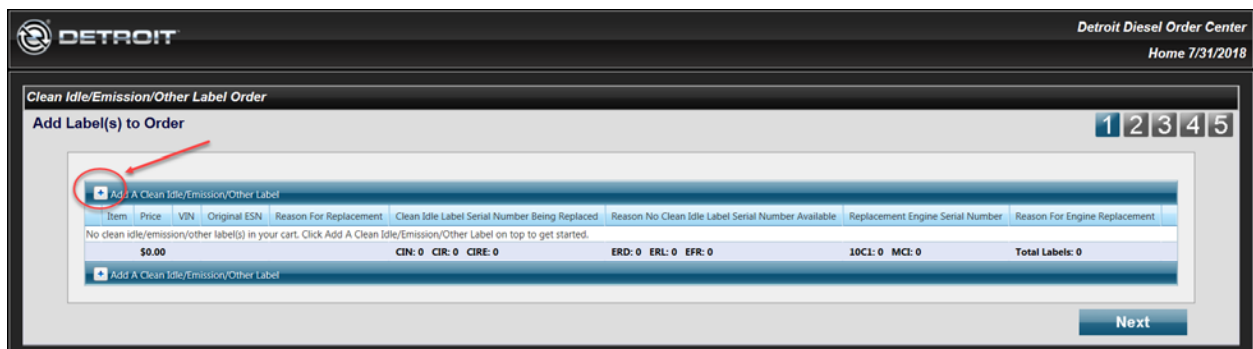

Figure 1 – Emission Label Order Process
2. Click the “+” next to “Add a Clean Idle / Emission / Other Label. See Figure 1.